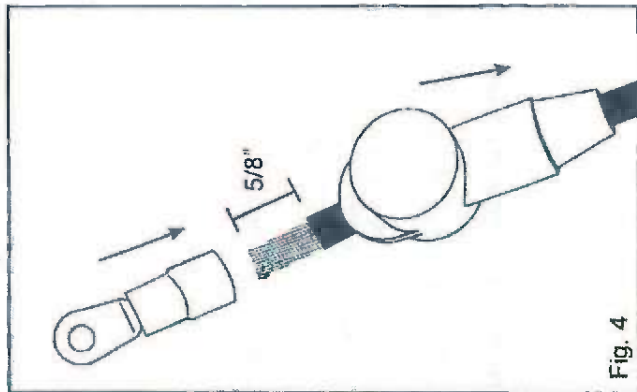

Fig. 4
- B. Split the 6 ga. wire at the solenoid about 4" back and slip on rubber boots - Red Boot (part # 514-0336) on red striped wire and Black Boot (part # 514-0337) on black wire (Fig. 4 & 5).
- C. Strip wire about 5/8" and attach connectors (part # 514-0328) (Fig. 4). Crimp Connectors.